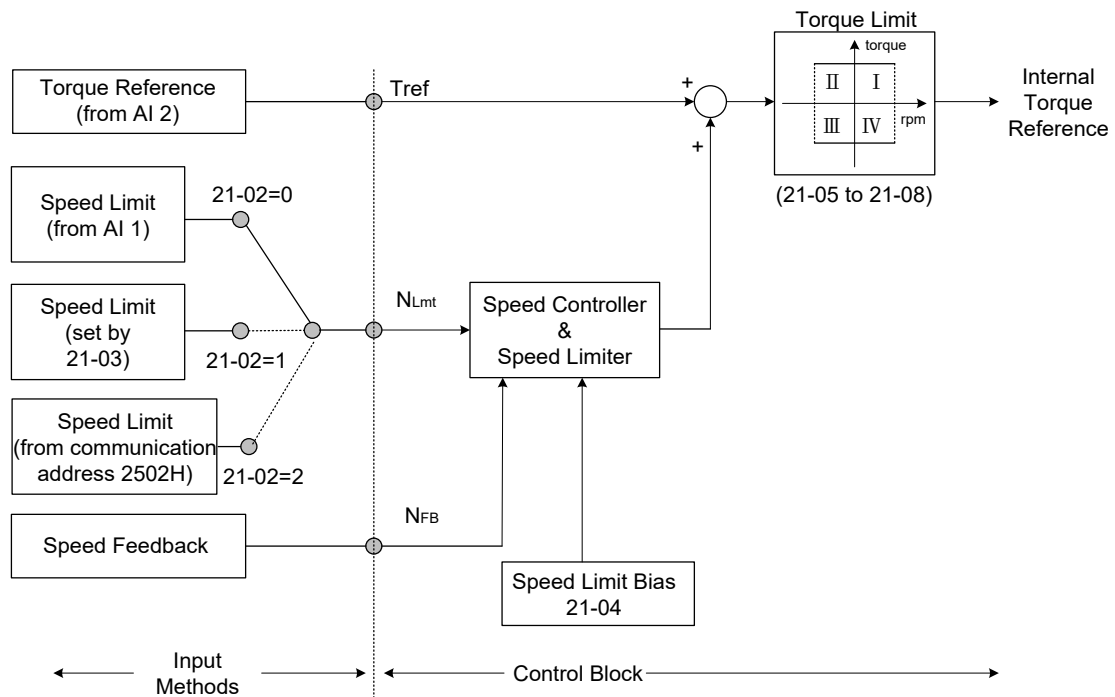

Figure 4.3.161 Torque Control Block Diagram
- Reverse: When the motor shaft rotates clockwise in response to the inverter's run command. A typical PG signal is shown below in Figure 4.3.161.